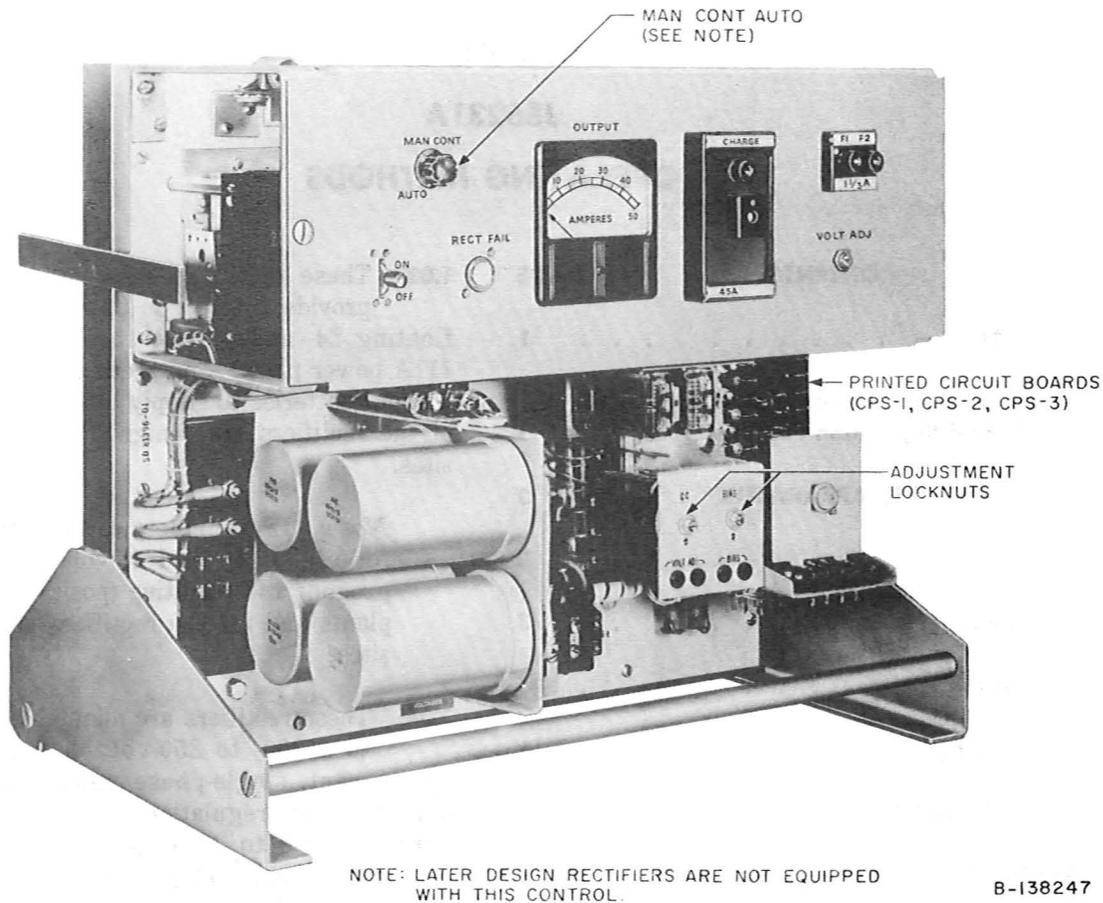

Fig. 1—J86231A Rectifier—Front View (Equipped with Manual Control)
1.05 Early J86231A rectifiers were equipped with a MAN CONT AUTO potentiometer and switch for manual control. (See Fig. 1.) Because the reliability of the automatic regulating devices in the rectifiers has been established, this manual control feature is not provided in rectifiers of later design.